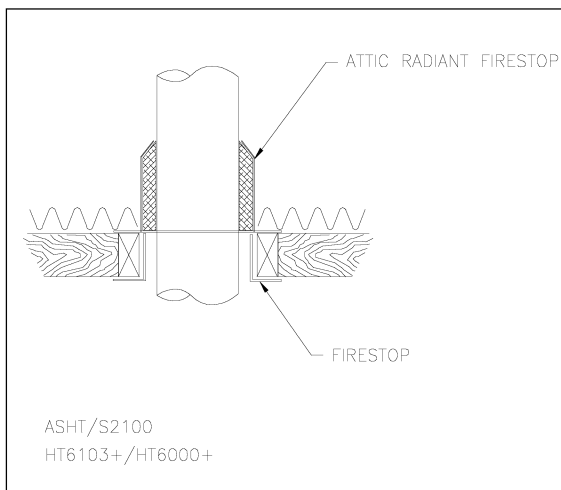
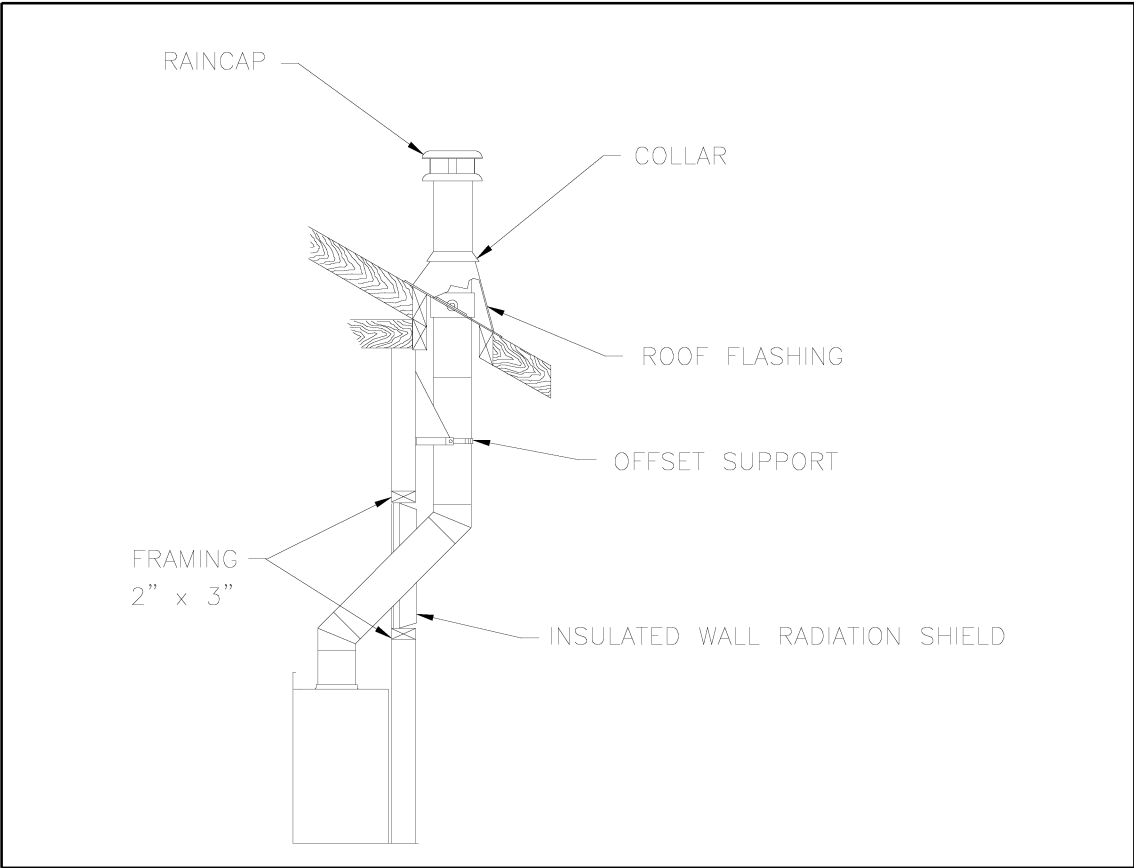

Figure 26
Figure 32
2. From below, install a firestop in each ceiling/floor separation through which the chimney will pass. At the attic level, install an attic radiation shield from above (figures 26 & 27).
1. Install the first elbow; turn it in the required direction. Fasten it to the chimney with the three (3) ½" (12 mm) metal screws provided with the elbow.
2. Install the necessary chimney lengths to achieve the required offset. Lock the chimney lengths together: it is recommended to use three (3) ½" (12 mm) screws. If the offset length is made of two (2) chimney lengths or more, use an offset or roof support halfway up the offset. If penetrating a wall, install a wall radiation shield (see figures 32 & 33).
3. Use another elbow to turn the chimney vertically. Secure the elbow, using three (3) ½" (12 mm) screws (provided with the elbow).
5. From below, install a firestop (See figure 26).